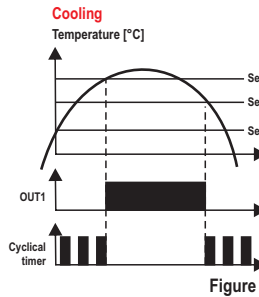

Figure 1
- **Timer triggered by SP1 (F22=1)**: the timer is triggered whenever the temperature reaches the value configured for SP1. The timer switches off when the temperature reaches SP1 + F06 (if **stage 1** is configured as refrigeration) or SP1 - F06 (if **stage 1** is configured as heating), as shown in Figure 1.
- **Stage 1 linked to the cyclical timer (timer switches on upon power up) (F22=2)**: in this configuration, the timer cycles according to the times configured in F20 (**ON**) and F21 (**OFF**). The **Stage 1** starts to cycle when the temperature reaches SP1 + F06 (if **stage 1** is configured as refrigeration) or SP1 - F06 (if **stage 1** is configured as heating), as shown in Figure 1.